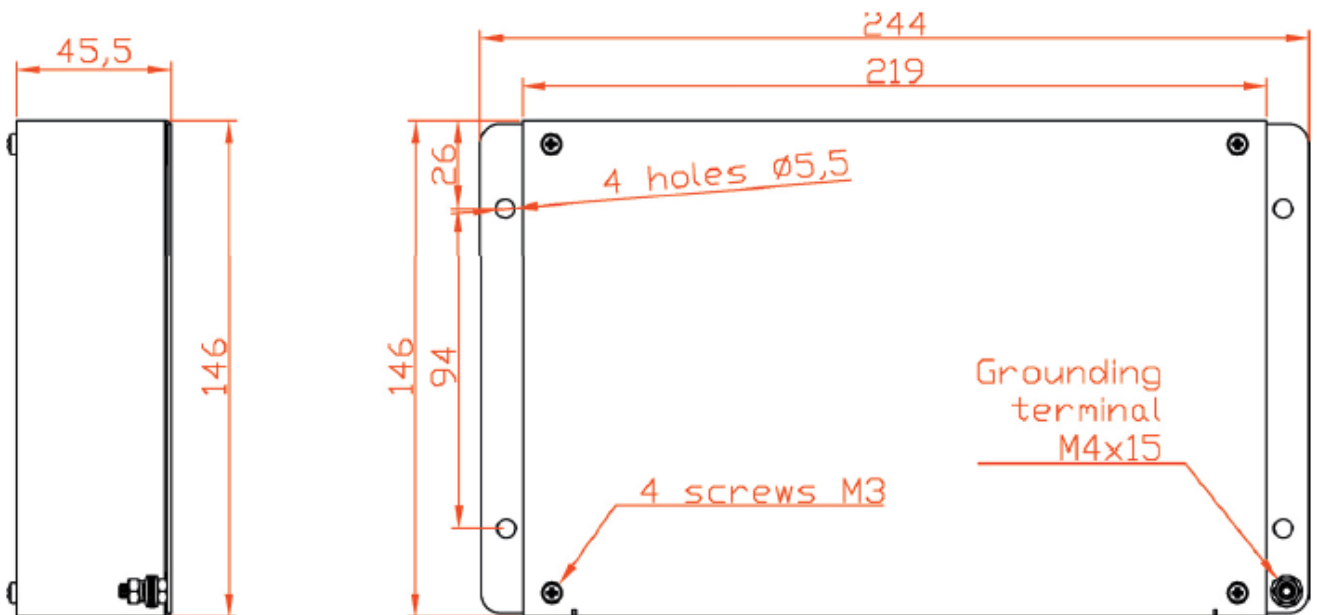

Figure 1 ADU-202 dimensions drawing
2. Fix strongly ADU-202 case on a vertical wall and with an effort of a hand check up the security of attachment (for overall dimensions see Figure 1);